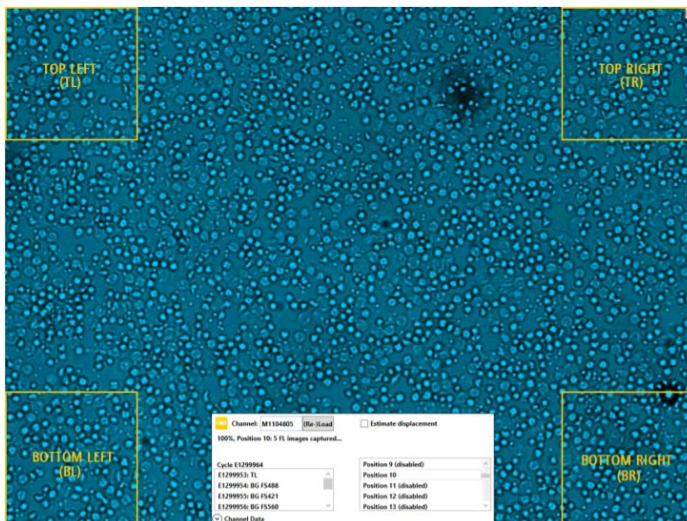

Fig. 4 | Example view of ScanApp with focus zones
5. Repeat steps B2-B4 for the three remaining corners: Top Right, Bottom Left, and Bottom Right. (Fig. 4)